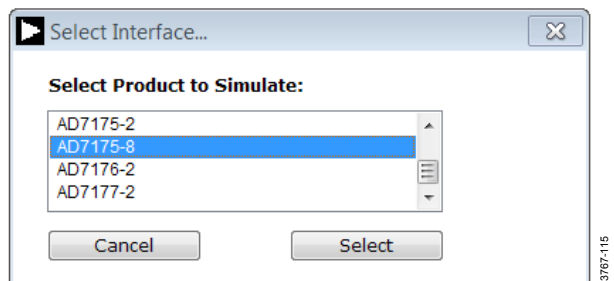

Figure 15. Evaluation Board Selection Simulation
- The AD717x Eval+ software can also be used without connecting hardware. Click the **Simulation** button and the options shown in Figure 15 appear. This simulation mode uses a model and allows the **AD7172-2**, **AD7172-4**, **AD7173-8**, **AD7175-2**, **AD7175-8**, **AD7176-2**, or **AD7177-2** to be evaluated.